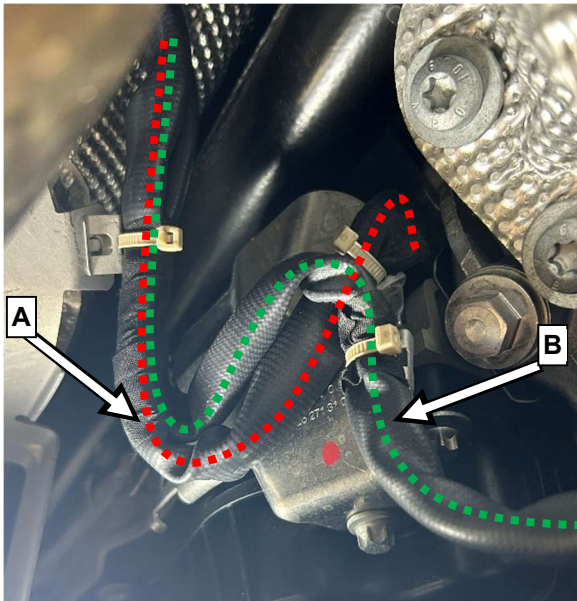
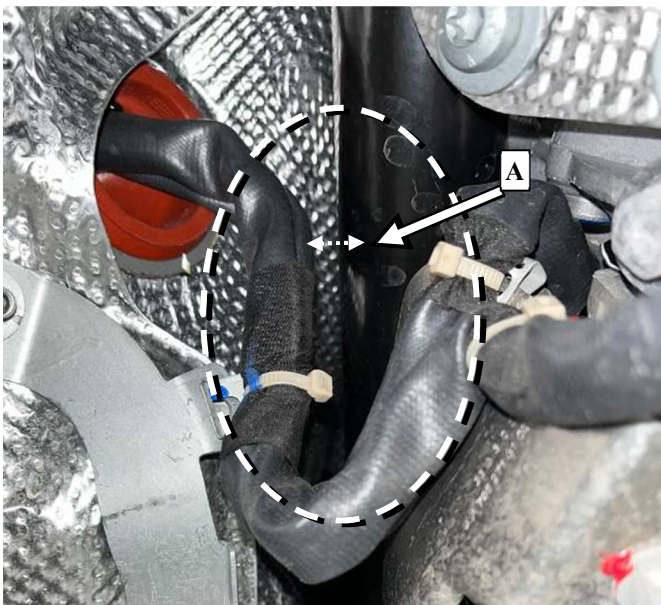

Figure 1 – **Red (A):** Power supply line
Figure 2
1. Check routing (**Figure 1**) and distance (**Figure 2**) between electrical wiring harnesses and the transmission tunnel/drive shaft and the transfer case to front axle differential (indicated parts).
i The distance between the electrical wiring harness and the drive shaft **must be** at least **10 mm (Figure 2, A)**.
Work Procedure 2b: Signal lines (Figure 1, B) are damaged.
- c. Electrical **power supply line** (Figure 1, A) (line cross-section **10 mm²**) **is damaged**: Carry out **Work Procedure 3**.